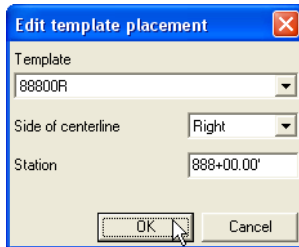

Figure 6-38. Enter Template Placement Information
2. Edit the desired information on the *Edit template placement* dialog box and click **OK** (Figure 6-38):